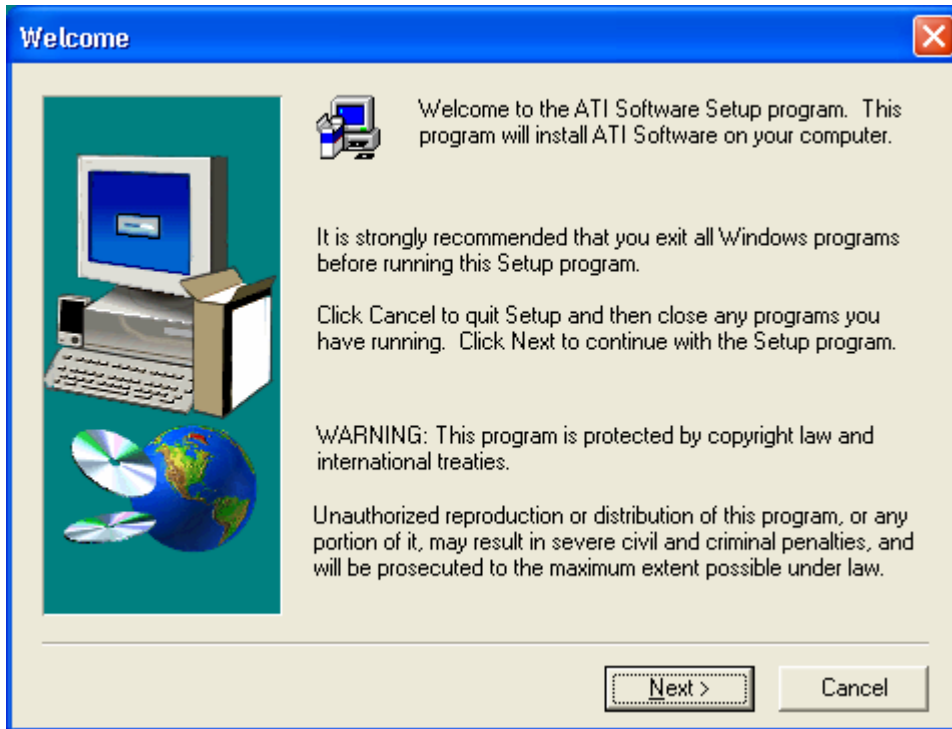

Figure 6-2: ATI Software Setup Welcome
Step 3: Once initialized, the ATI Software Setup welcome screen appears (Figure 6-2).